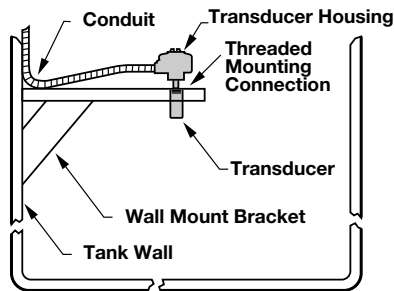

Figure 8
1. Position the bracket such that the transducer mounting hole is positioned over the open tank or channel. Refer to Figure 8.